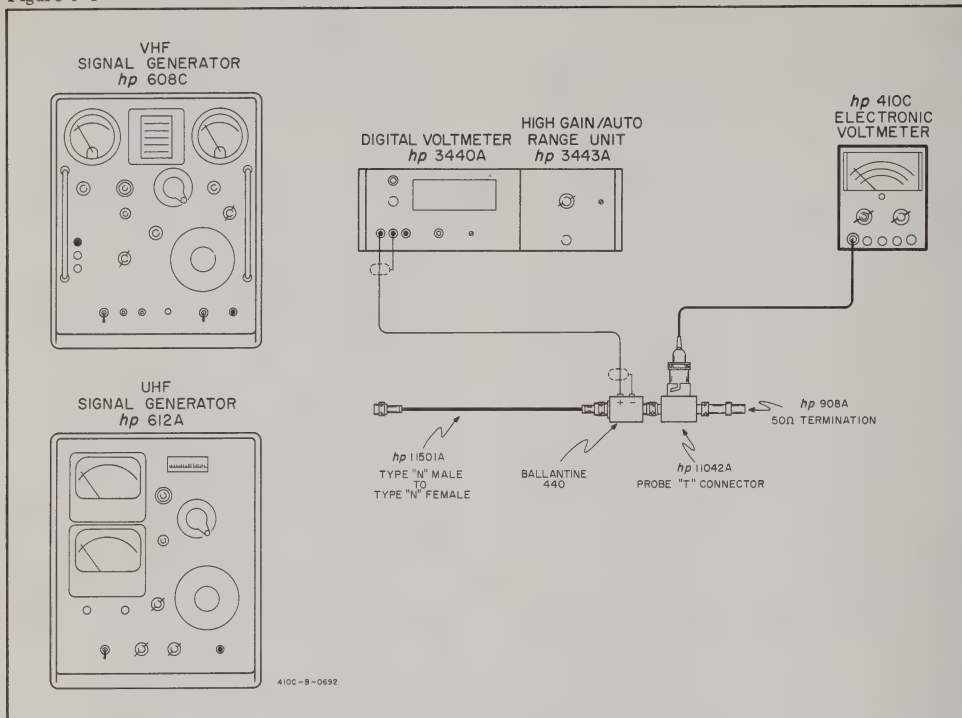

Figure 5-4. High Frequency Response Test
a Probe-T-Connector (-hp- Model 11042A), a Micropotentiometer (Ballantine Model 440), and a DC Voltmeter (-hp- Model 3440A/3441A) are required for this check. Figure 5-4 describes test arrangement to be used.
- Replace VHF oscillator with UHF oscillator in Figure 5-4. Repeat steps b and c for UHF oscillator output frequencies from 480 MHz to 700 MHz.